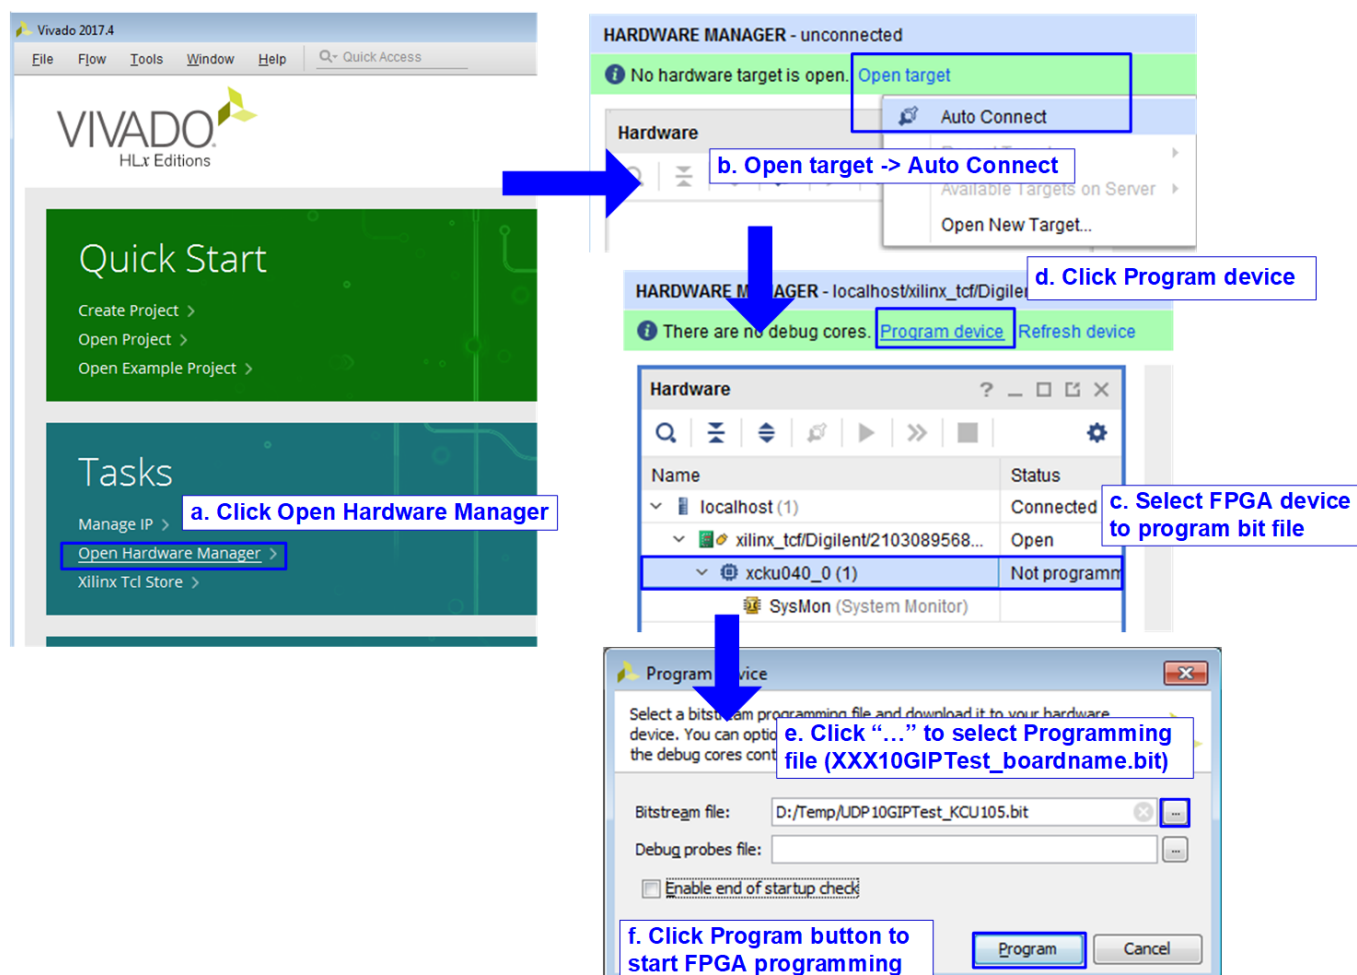

Figure 2-15 Program FPGA by Vivado
- b) For KCU105/VCU118/KCU116 boards, use the Vivado tool to program the configuration file, as shown in Figure 2-15.